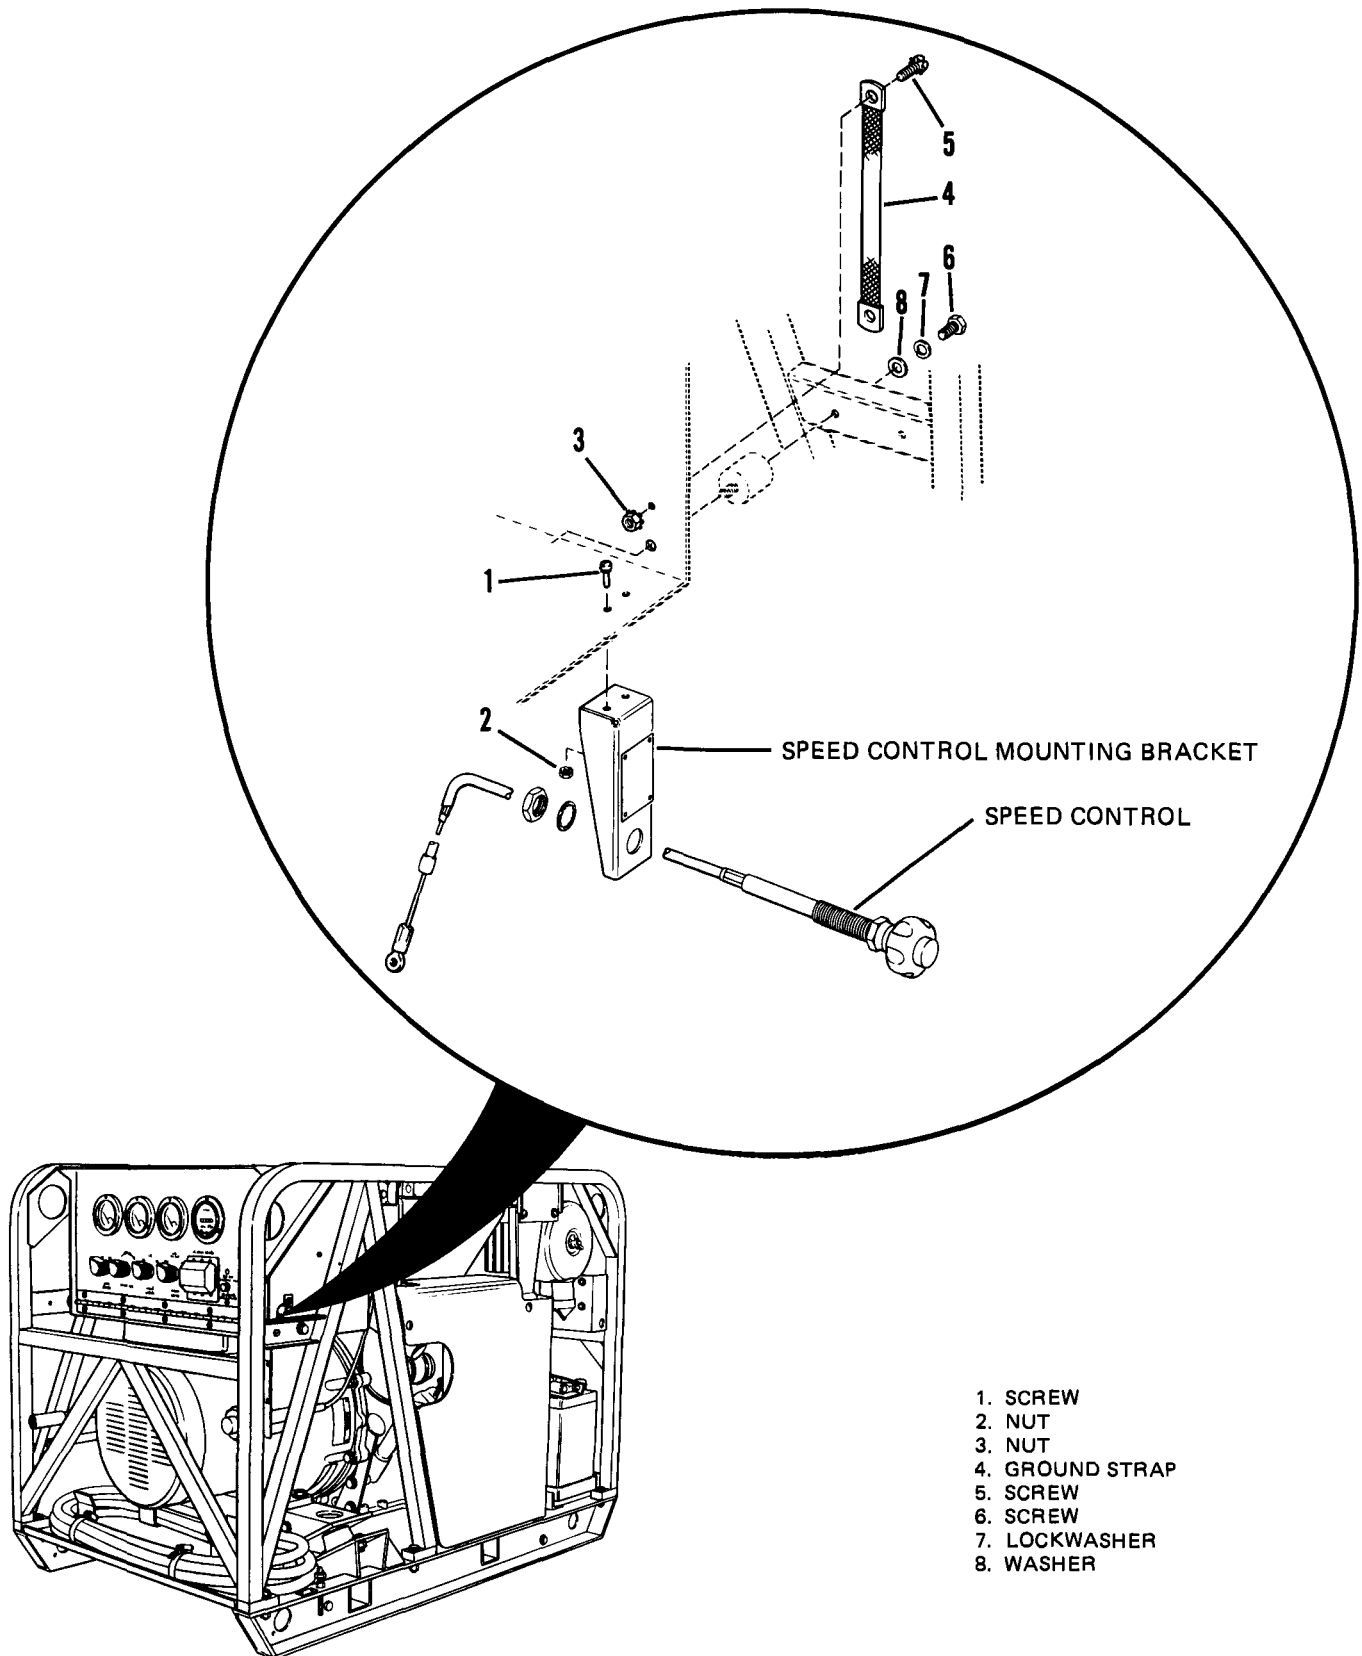
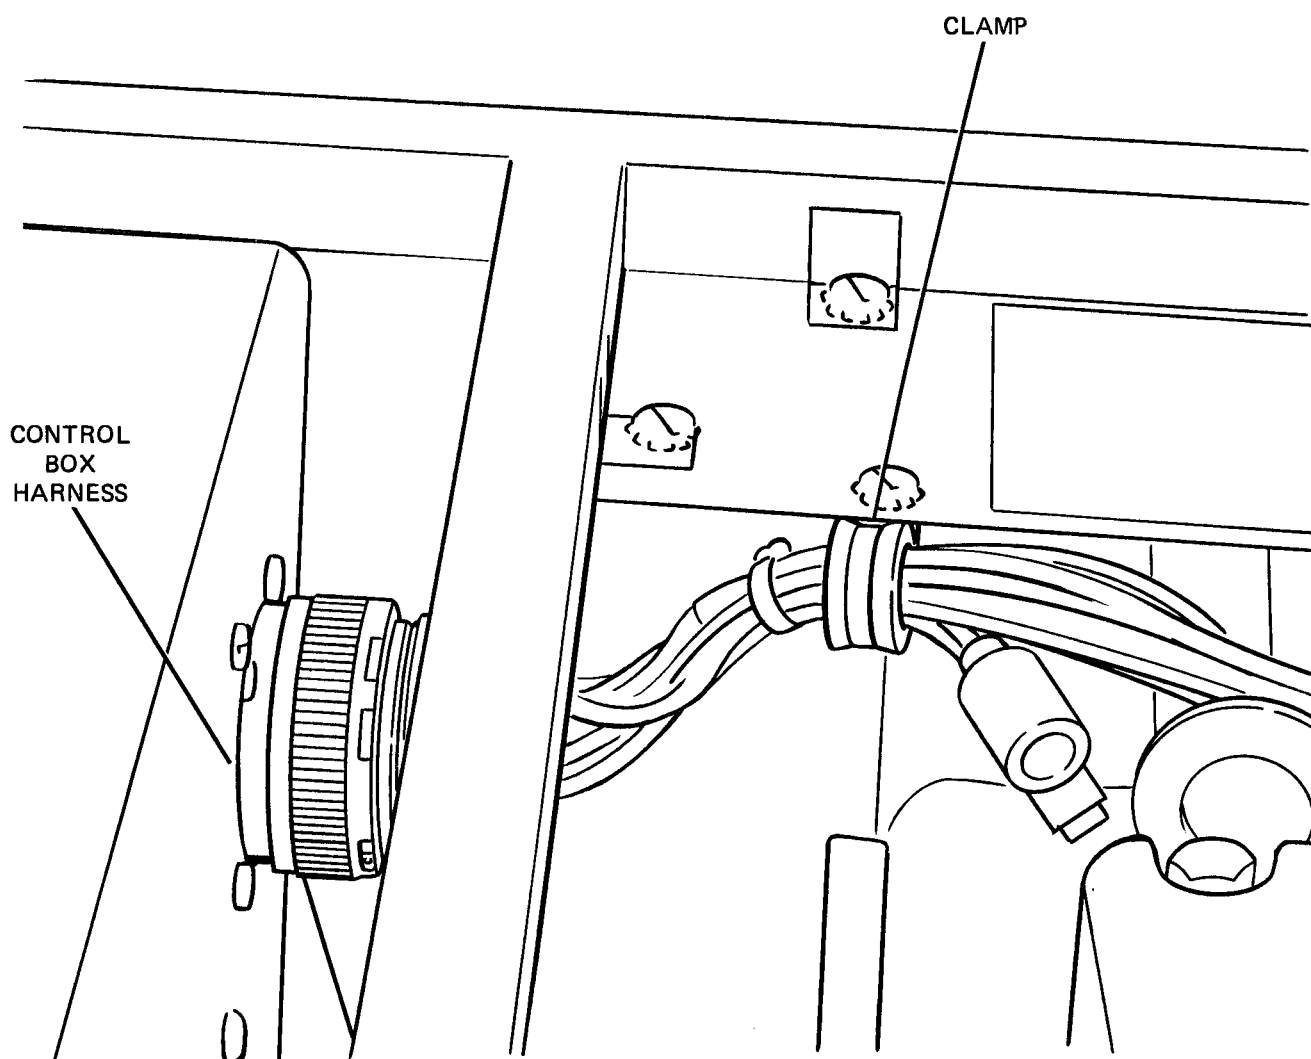

Figure 2-1. Control Box Removal and Installation.
Figure 2-4. Control Box Harness.
Figure 2-1 shows the Model MEP-016B Control box.
- (2) Remove screws (1, Figure 2-1) and nuts (2). Remove speed control mounting bracket from bottom of control box.
- (3) Remove nut (3), ground strap (4), and screw (5).
- (4) Disconnect five generator leads (MEP-026B) and eight generator leads (MEP-016B and MEP-021B).
(5) Remove four screws (6, Figure 2-1), lockwashers (7), and washers (8).
- (6) Loosen clamp and disconnect control box harness (Figure 2-4).
- (7) Thread generator wiring (five leads MEP-026B, eight leads MEP-016B and MEP-021B) through opening in bottom of control box.
- (8) Remove control box and cover generator opening to prevent entry of dirt.
- (1) Remove cover from generator.
- (2) Place control box in position on frame. Thread generator wiring (five leads MEP-026B, eight leads MEP-016B and MEP-021B) through opening in bottom of control box.
- (3) Secure control box to frame with washers (8, Figure 2-1), lockwashers (7), and screws (6).
- (4) Connect generator wiring to control box terminal boards using tags as lead identification.
- (5) Secure ground strap (4) with screw (5) and nut (3).
- (6) Connect speed control mounting bracket to bottom of control box with screws (1) and nuts (2).
- (7) Connect control box harness to back of control box and tighten clamp (Figure 2-4).